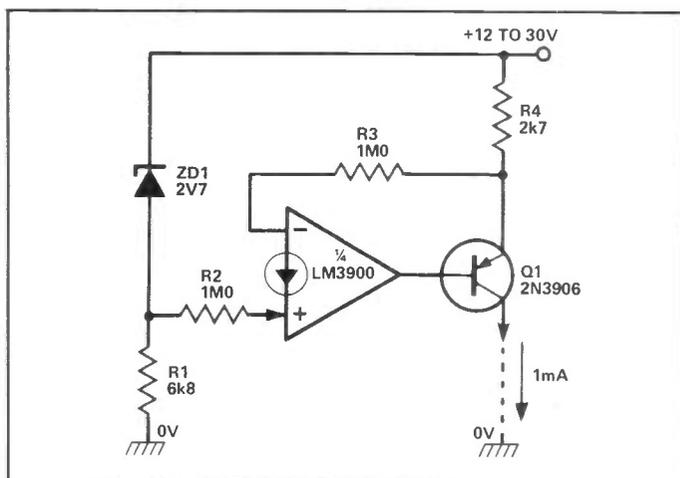

Figure 28: Alternative current source (1 mA).
**Figure 28** shows a simple variation of the above circuit, in which the source current is independent of variations in supply rail voltage. In this case the input is set to 2V7 below the supply